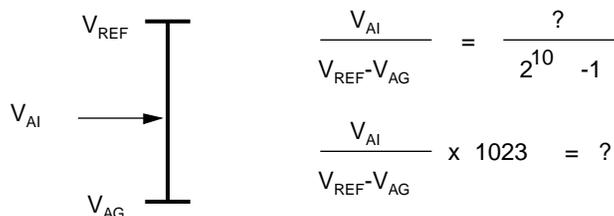

Figure 4. A/D Conversion Ratio
The 5051 will take the voltage it samples off its analog input pin and convert it to a number equivalent to the ratio of the input voltage and the difference between the V_{REF} and V_{AG} . This number is the converter's digital representation of the sampled voltage input. Figure 4 illustrates this ratio and describes an equation that predicts the ADC's conversion value. For example, if $V_{AI} = 2.34$ volts, then the 10-bit representation of that voltage is 479 or \$1DF.
2. If $V_{REF}-V_{AG}$ is exactly 5.00 volts, the A/D should convert to a reading of 450 or \$1C2. (See **Figure 4 A/D Conversion Ratio.**)